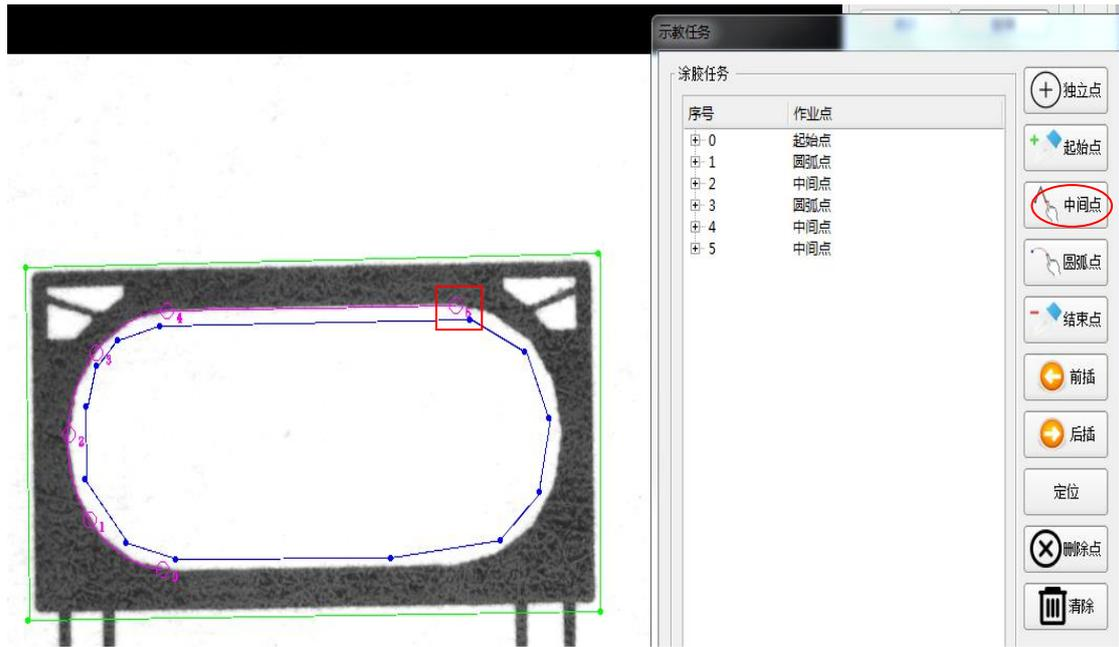

Figure 34 Middle point adding
6) Add the middle point near the next intersection of straight line and arc line, as shown in figure 34;